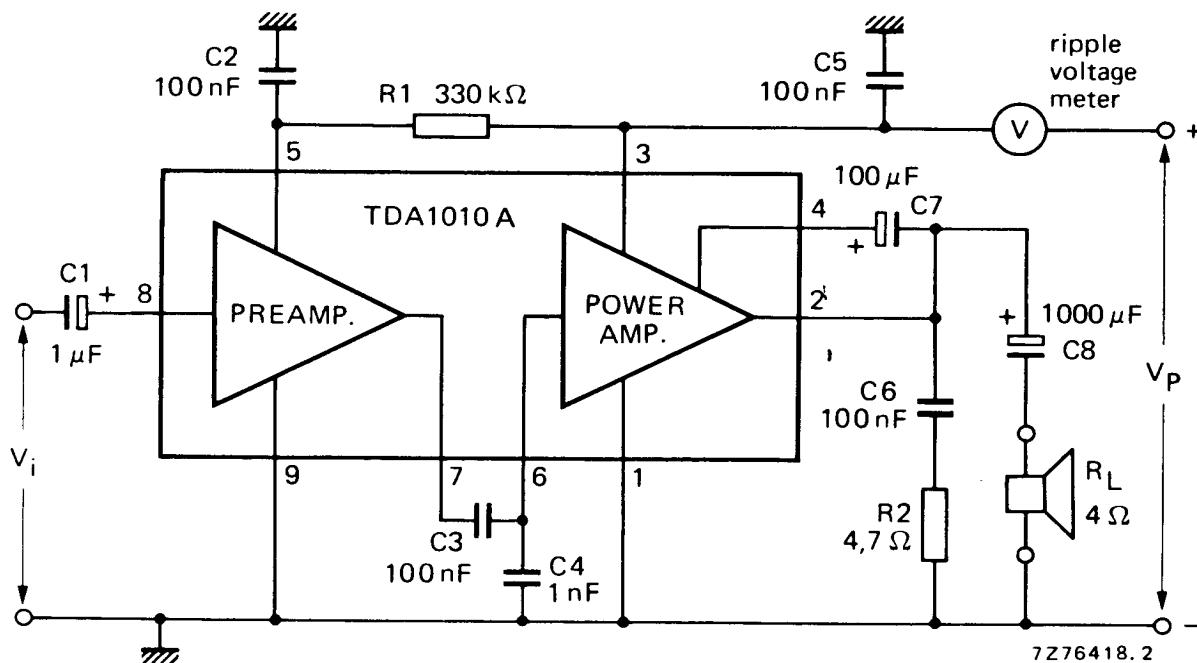

Fig. 3 Test circuit.
$T_{amb} = 25^\circ\text{C}$; $V_P = 14,4$ V; $R_L = 4 \Omega$; $f = 1$ kHz unless otherwise specified; see also Fig. 3.A.F. output power (see Fig. 4) at $d_{tot} = 10\%$;
Fig. 4 Output power of the circuit of Fig. 3 as a function of the supply voltage with the load impedance as a parameter; typical values. Solid lines indicate the power across the load, dashed lines that available at pin 2 of the TDA1010. $R_L = 2\Omega$ (1) has been measured with an additional 220Ω bootstrap resistor between pins 3 and 4. Measurements were made at $f = 1\text{ kHz}$, $d_{\text{tot}} = 10\%$, $T_{\text{amb}} = 25^\circ\text{C}$.
Total harmonic distortion in the circuit of Fig. 3 as a function of the output power with the load impedance as a parameter; typical values. Solid lines indicate the power across the load, dashed lines that available at pin 2 of the TDA1010. $R_L = 2\Omega$ (1) has been measured with an additional 220Ω bootstrap resistor between pins 3 and 4. Measurements were made at $f = 1\text{ kHz}$, $V_p = 14.4\text{ V}$.
Fig. 7 Total power dissipation (solid lines) and the efficiency (dashed lines) of the circuit of Fig. 3 as a function of the output power with the load impedance as a parameter (for $R_L = 2\Omega$ an external bootstrap resistor of $220\ \Omega$ has been used); typical values. $V_P = 14.4\text{ V}$; $f = 1\text{ kHz}$.